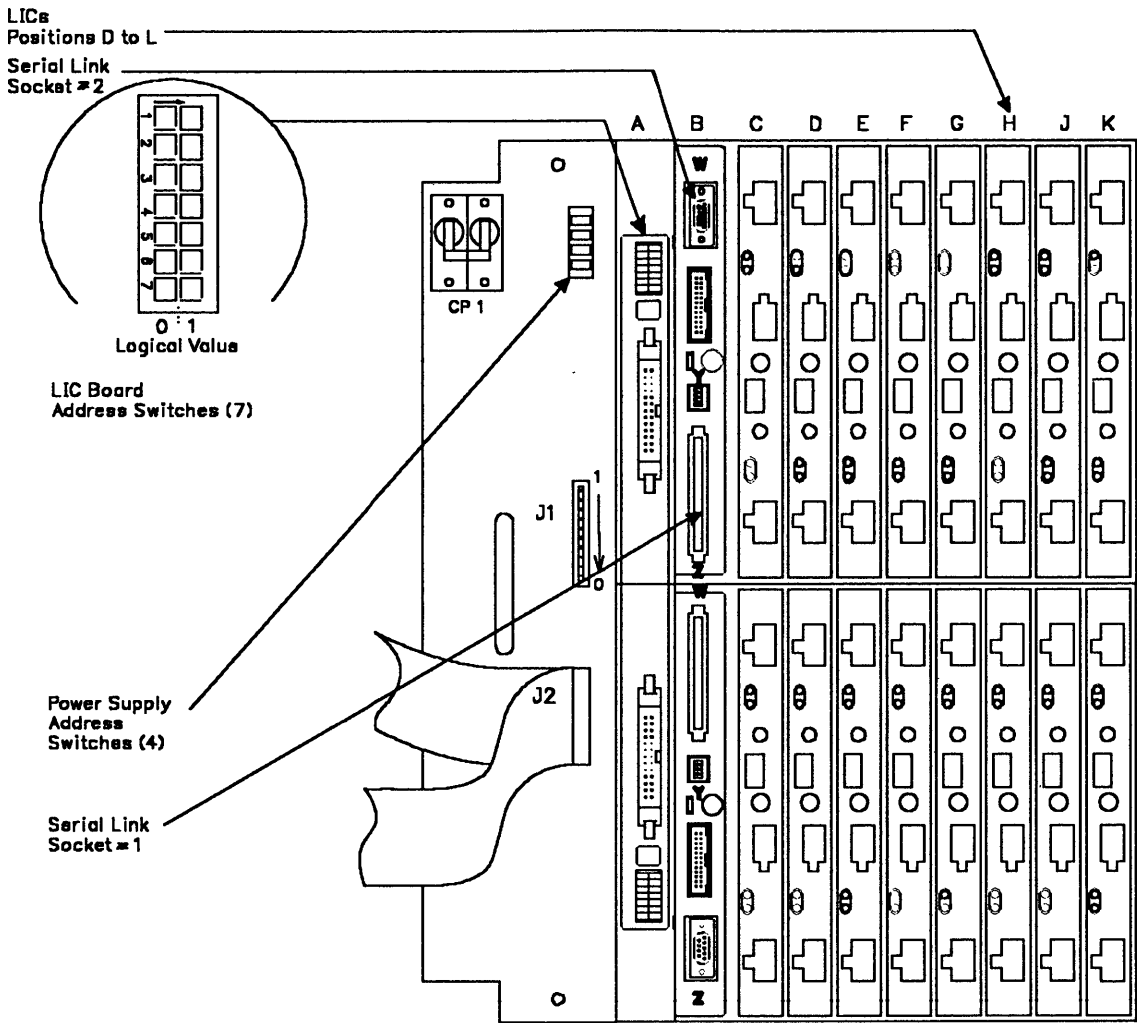

Figure 5-145. LIC Board Type 2 Assembly
Refer to Figure 5-145 on page 5-144 and do the following:
1. Refer to Figure 5-145 on page 5-144 and set the board address to the same one you noted during board removal.